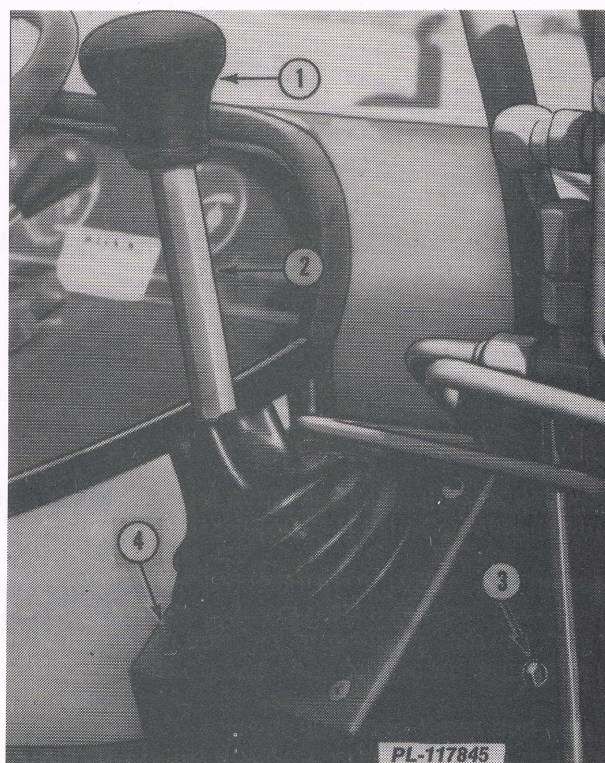

Fig. 2
1. Remove the knob (1, Fig. 2) from control lever (2). Remove cover bolts (3) and remove cover (4).